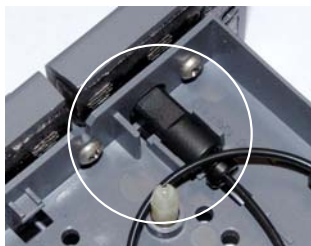

Figure 5
6. Remove the fitting plug from the outlet fitting on the separator column. Orient the fitting with a flat side up (see Figure 5) and push the fitting into the opening at the front of the column cartridge until it stops.